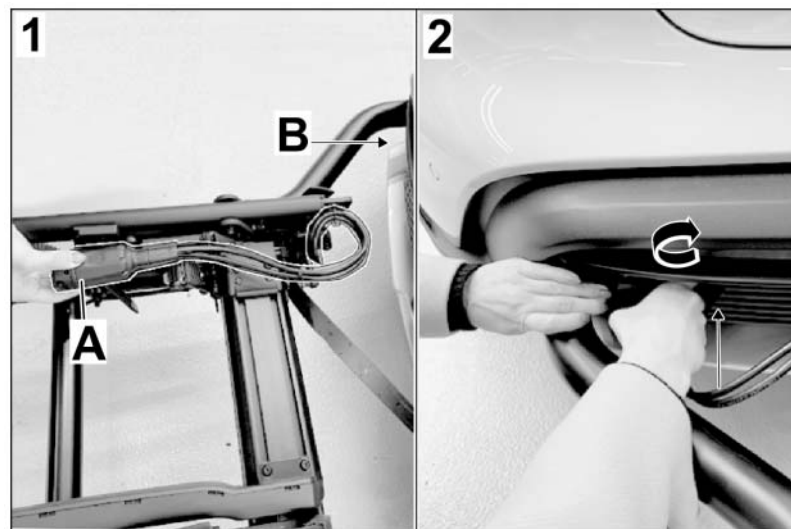

Figure 8
- 8. – Route electric plug connection from the bike carrier ⇒ Figure 8-LHD vehicle - towards the plug connection on the vehicle side and connect it. Plug connector straight in and turn it to the right. When routing the cable, make sure that it has adequate clearance so that it is not touching/rubbing against any component. **Important:** When actuated using the key or the control panel in the vehicle, the tailgate only pops up. The tailgate opens electrically when the button in the rear apron is pressed. Please press the button only when the bike carrier is folded down and when there is sufficient clearance between it and the tailgate because otherwise, the tailgate could hit against the bike carrier and could be damaged. If the connector is not